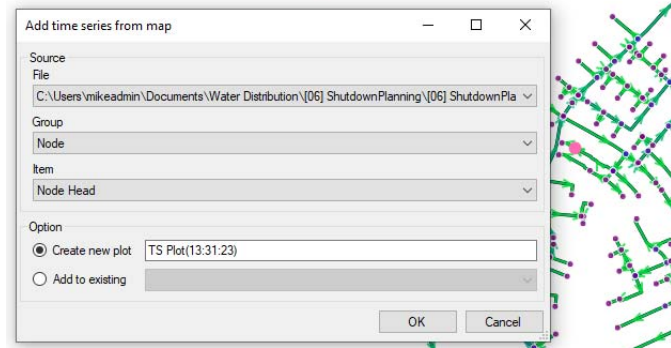

Figure 20.21 Select and display time series from a node
- **TS from map.** This tool allows for creating a time series plot directly from a selected item on the map (Figure 20.21). The 'Add time series from map' dialog appears, wherein one specifies: